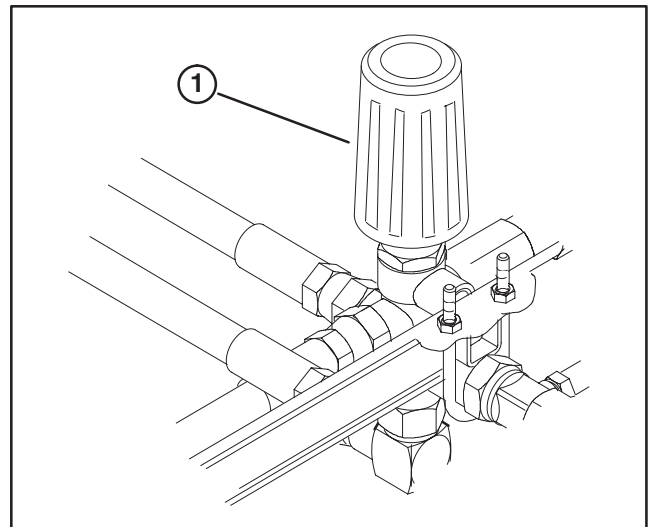

Figure 3
1. Adjust the pressure regulator / unloader valve to its lowest pressure setting (Fig. 3).